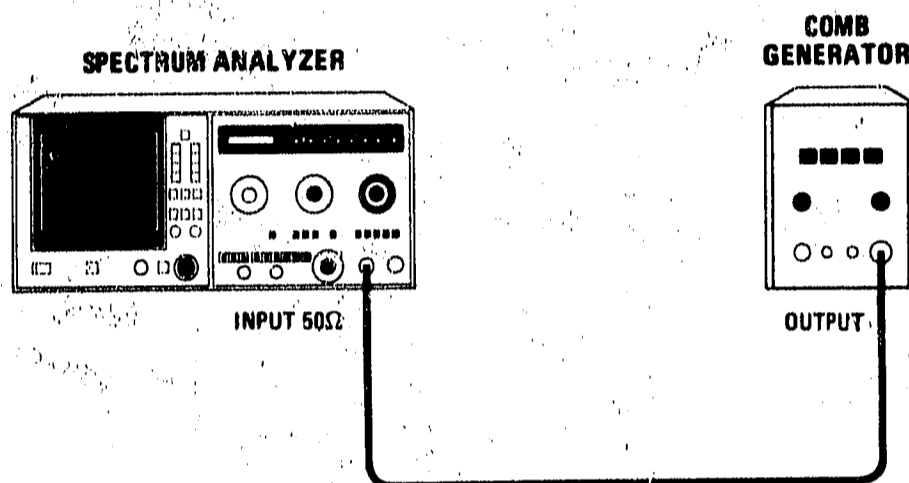

Figure 4-7. Residual FM Test Setup
2. Connect comb generator output to spectrum analyzer INPUT as shown in Figure 4-7. Set comb generator for maximum output amplitude.